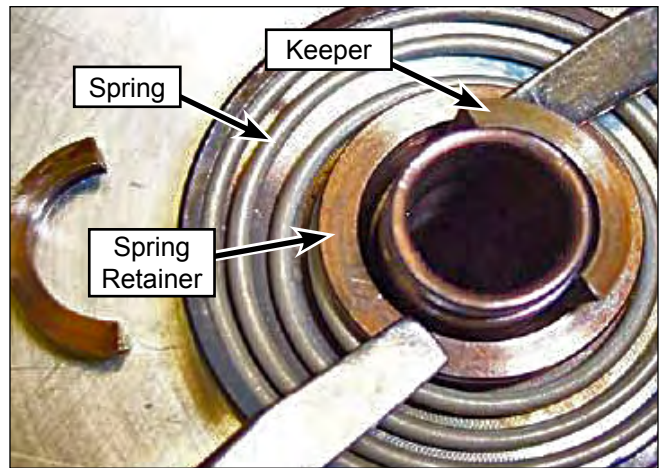

Figure 90: Remove Retainer and Spring Keepers.
5. Press down on the valve spring retainer and slide the spring keepers out from the assembly (Figure 90).